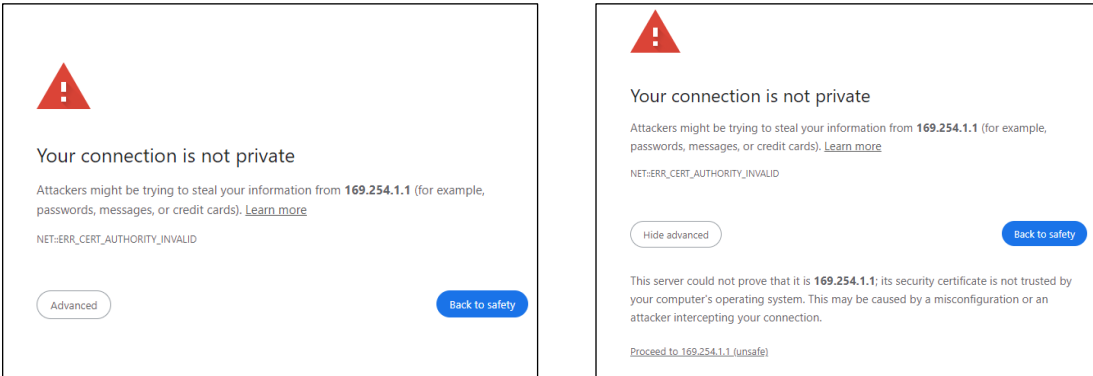

Figure 5.1—HCC2 USB-C connector for laptop connection
1. Once the system is energized, connect the laptop to the HCC2 using the USB-C to USB-A cable. Connect the USB-C connector to the HCC2 (Figure 5.1) and connect the USB-A connector to the laptop.